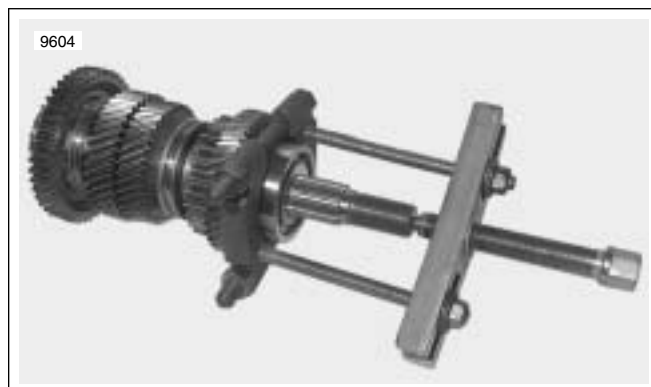

Figure 7-7. Output Shaft Bearing
4. See Figure 7-7. Remove output shaft bearing.